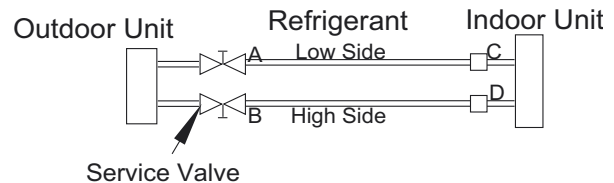

Fig. 14 – Service Valve
- 1 Completely tighten flare nuts A, B, C, D, connect manifold gage charge hose to a charge port of the low side service valve (see Fig. 14.).